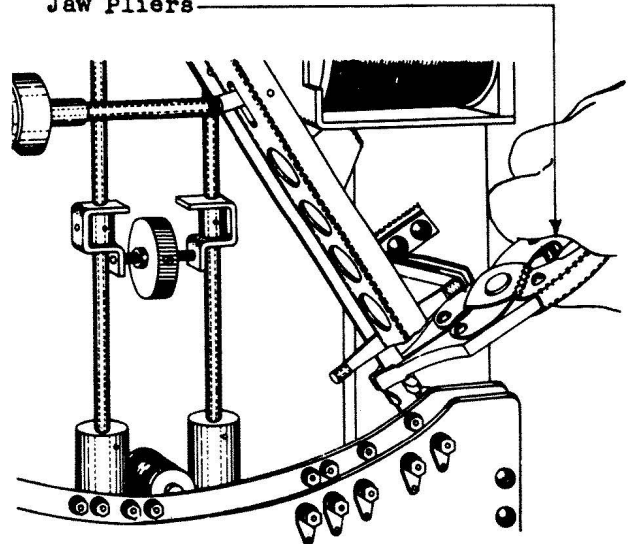

Fig. 27 - Method of Adjusting the
(1) To readjust for this clearance release the contact arm from the pendulum, move to the right side and adjust the contact arm just below the armature by means of the KS-7782 parallel jaw pliers.
(2) If, after this adjustment, the armature is not approximately parallel to the face of the core of the trip magnet, apply the KS-7782 parallel jaw pliers to the contact arm just above the armature as shown in Fig. 27, and adjust the arm as required.
(3) If it is necessary to make any re-adjustments for this requirement, all the requirements on the reset arm must be checked.